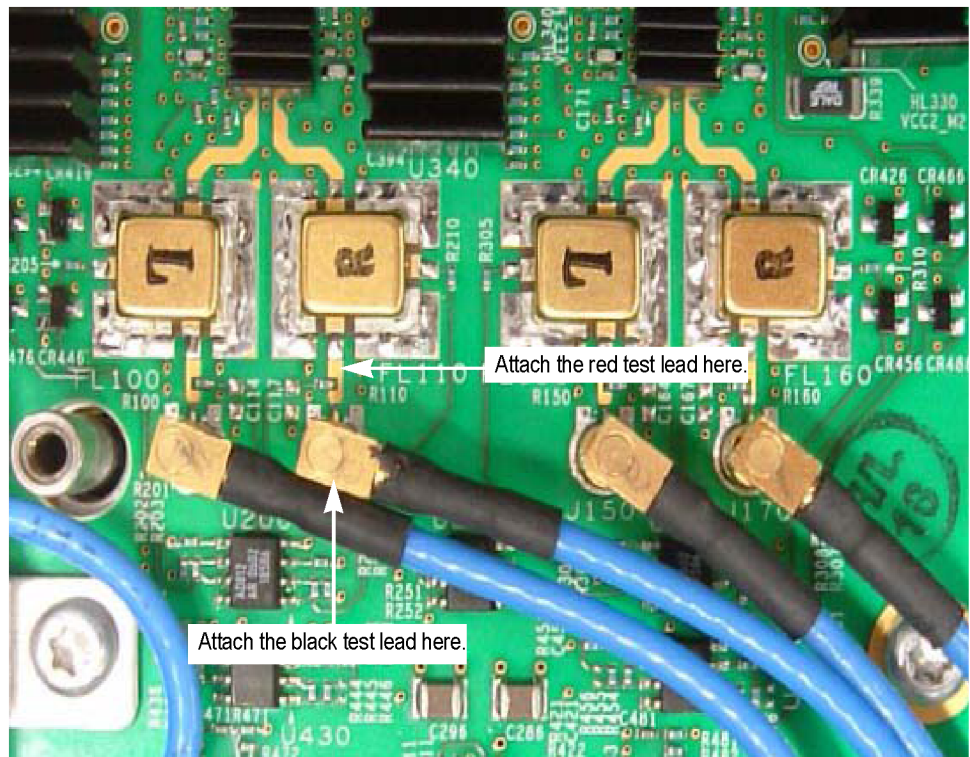

Figure 31: OUT10G board showing the test points
2. Attach the red test lead to the transmission line near J100 on the OUT10G board. (See Figure 31.)
3. Attach the black test lead to the connector housing at J100 on the OUT10G board. (See Figure 31.)